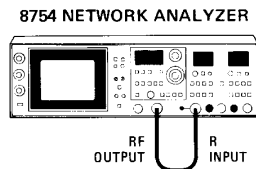

Figure 2-6. Absolute Measurement Test Setup
1. Connect equipment as shown in Figure 2-6. Set controls as follows: